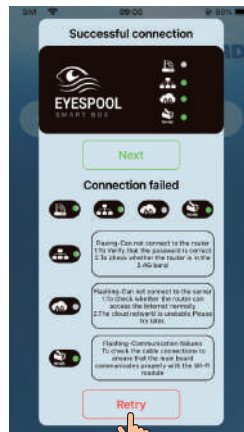
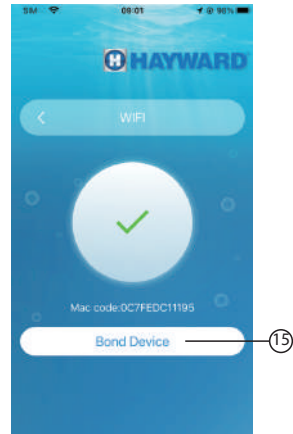
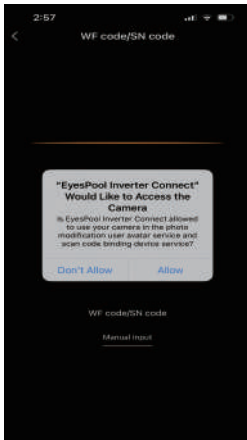

Fig.11 Enable bluetooth permission
Fig.12 Bluetooth setting interface
Fig.13 Enable camera permission
4. Turn on bluetooth and back to the APP, directly enter the searching device interface(Fig. 13), If t connection fails or succeeds, a pop-up window will appear. If the connection fails(Fig.11), try again as prompted. If successful(Fig.12), check the light 1 of the wifi module indicator, and then select the operation according to the prompts.
5. Click (15) to bond device (Fig.12);